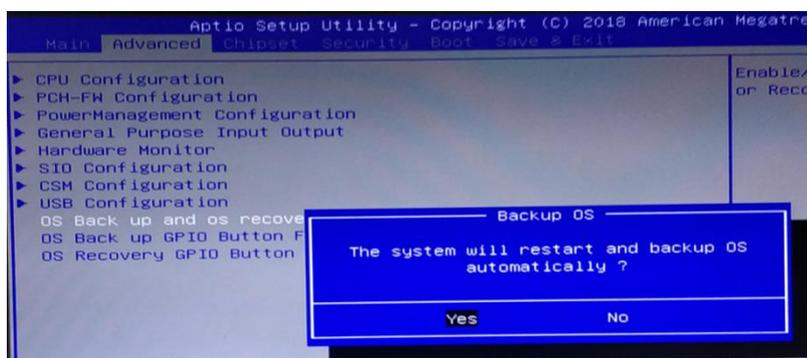

Figure 2 Backup
(3) Press F3 on the keyboard, and the prompt will appear: The system will be restarted and the system will be automatically backed up (as shown in figure 2). We have to use the keyboard to select [YES], enter the backup interface and start the backup. After the backup, the system will be automatically restarted.
(3) Press F4 on the keyboard, and the prompt will appear: The system will be restarted and the system will be automatically recovery (as shown in figure 2). We have to use the keyboard to select [YES], enter the recovery interface and start recovery. After recovery, the system will be automatically restarted.